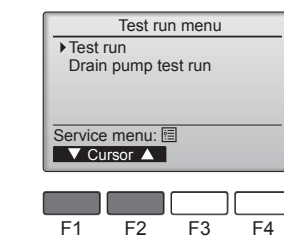

Fig. 6-4
④ Select "Test run" with the [F1] or [F2] button, and press the [SELECT] button. (Fig. 6-4)